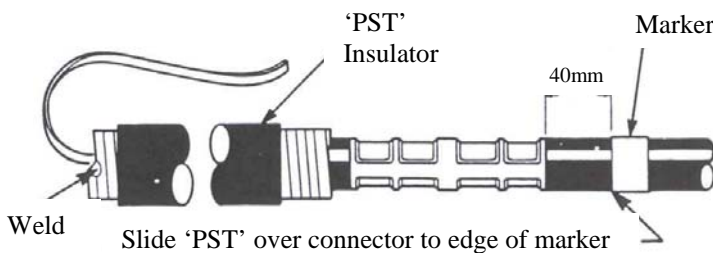

Figure 3
2. Slide PST assembly onto cable and install connector (figure 3).